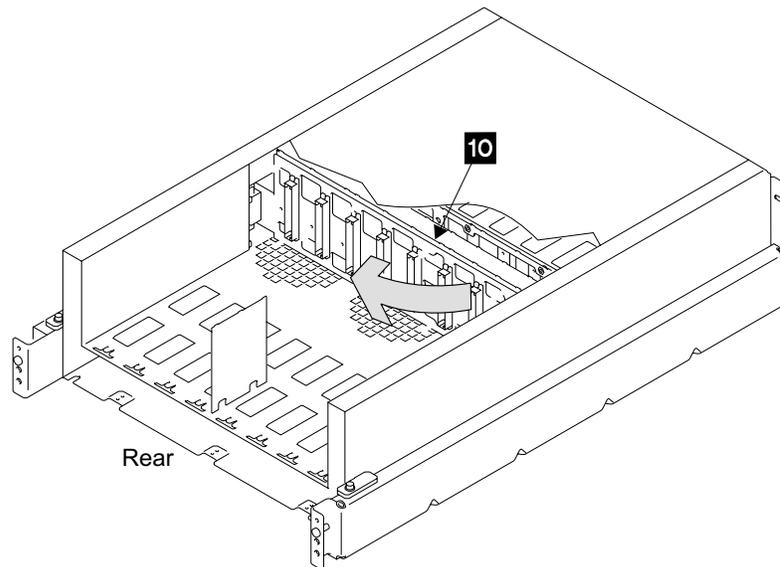

Figure 53. Back Backplane Assembly Removal (S008405m)
- Back backplane assembly, not visible (R2-, R3-, R4-Yxx-P2) **10** in Figure 53 on page 43